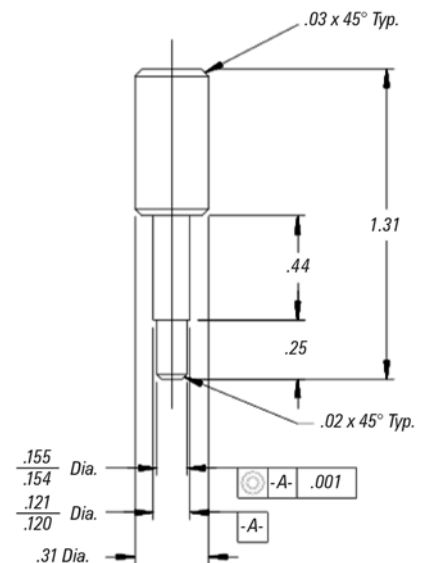

Figure 15 Relay Alignment Tool
An alignment tool (Figure 15) is not essential for assembly of the relay, but using the tool will prevent excessive air consumption and dead band.
4. Insert the small end of the alignment tool (Figure 15) into the opening in the upper relay body. If the tool does not engage the hole in the diaphragm assembly, move the relay parts slightly until it engages completely. The alignment tool must be left in the place until all screws are tightened.
6. Install the valve plug, spring, gasket and retainer cap, and secure them with four (4) 8-32 x 1/4 machine screws.